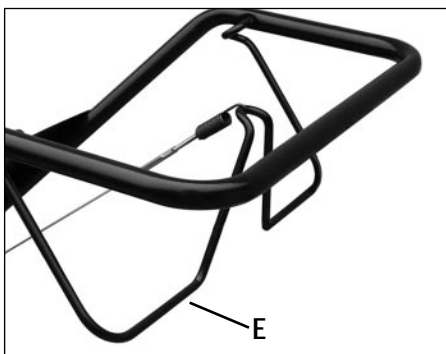

Figure 3-4
The Forward Clutch Bail (E, Figure 3-4) controls the engagement of forward drive to the wheels and tines.
2. Lift and hold the clutch bail (E, Figure 3-4) against the handlebar to start the wheels and tines rotating in a forward direction.